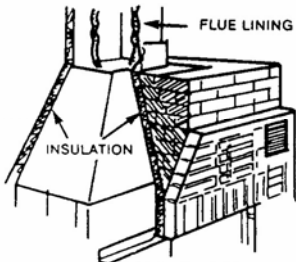

FIG. 7 Brick should be corbelled to support chimney
**Step 7** When the face of the fireplace has been built up to desired height, start corbelling the masonry back to meet the dome of the smoke chamber and the flue lining. Be sure the smoke chamber is covered with insulation. See that tight connection is made to the flue lining and that plenty of insulation is packed loosely around the place where the flue lining meets the smoke chamber. Do not allow the flue lining to rest on the Heat-Circulator, the Flue lining must be supported by the chimney masonry. (See Figure 7). Metal Adaptors are available to convert the Heat-Circulator flue opening for use with 8" or 10" round clay flue.